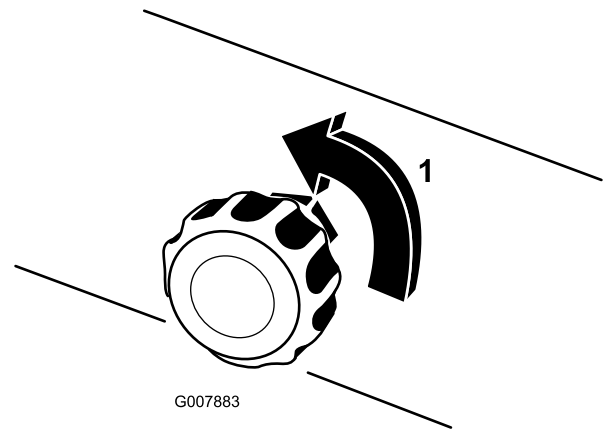

Figure 30
5. For the initial operation, open the foam density adjustment valve 1/8 to 1/4 turn (Figure 30).